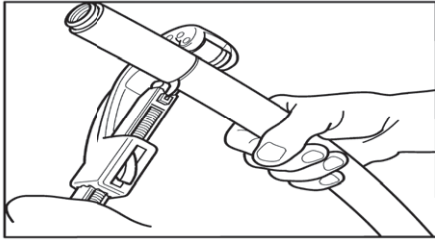

Figure: 4-49
- Using the appropriate tubing cutter with **TracPipe®** #FGP-E-5272 cutting wheel, score the black sleeve approximately half of the way through. Figure: 4-49. Use extreme care not to cut or score the stainless corrugated pipe! Typically, no more than two turns in on the cutter is sufficient.